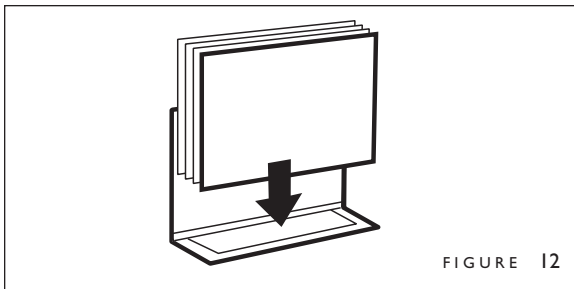

FIGURE 12
8. As soon as the display flashes "REMOVE BOOK," pick up the document and place it against a rear book support fence (figure 12).
3. Form your Halfback front cover into an "L" shape, by folding it along the score mark closest to the cover edge. Make sure adhesive side faces inward. Place the document pages on the short flap so they are sitting on the un-melted adhesive. Put the back cover in place (figure 12).